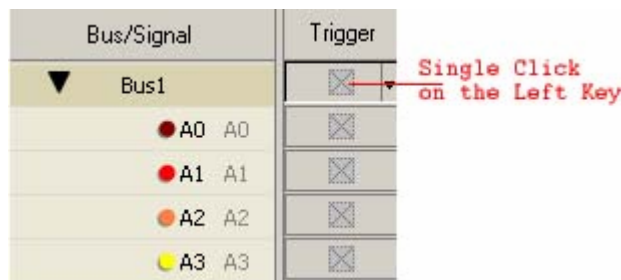

Fig 4-31 – Trigger Column
**Tip:** Left click on Trigger column of the Bus as shown in Fig 4-31.